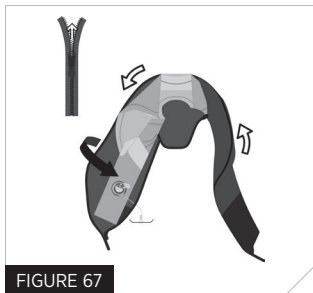

FIGURE 67
14. Close the cover by running the zipper sliders back to the ends of the zipper run (Fig 67).